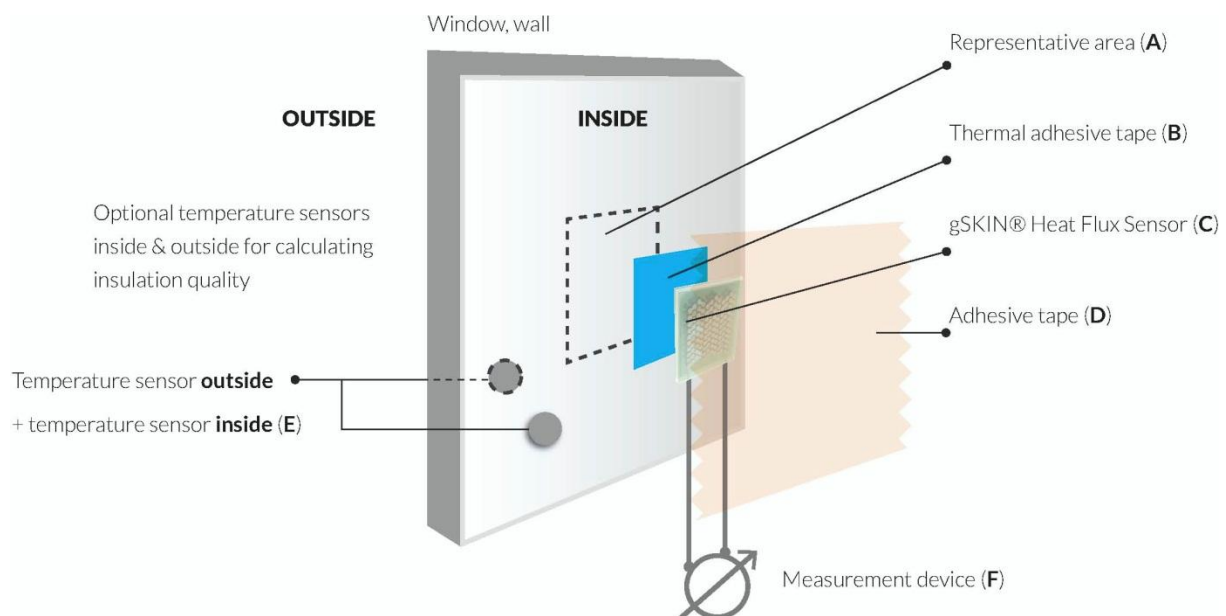

Figure 2: Illustration of a typical measurement set-up.
- Do the measurement set-up with two additional temperature sensors as shown in Figure 2 (see previous section "measurement set-up"). Place one of the sensors inside and one outside of the area of interest. Make sure, that they are placed at opposite spots across the wall and close to the heat flux sensor.